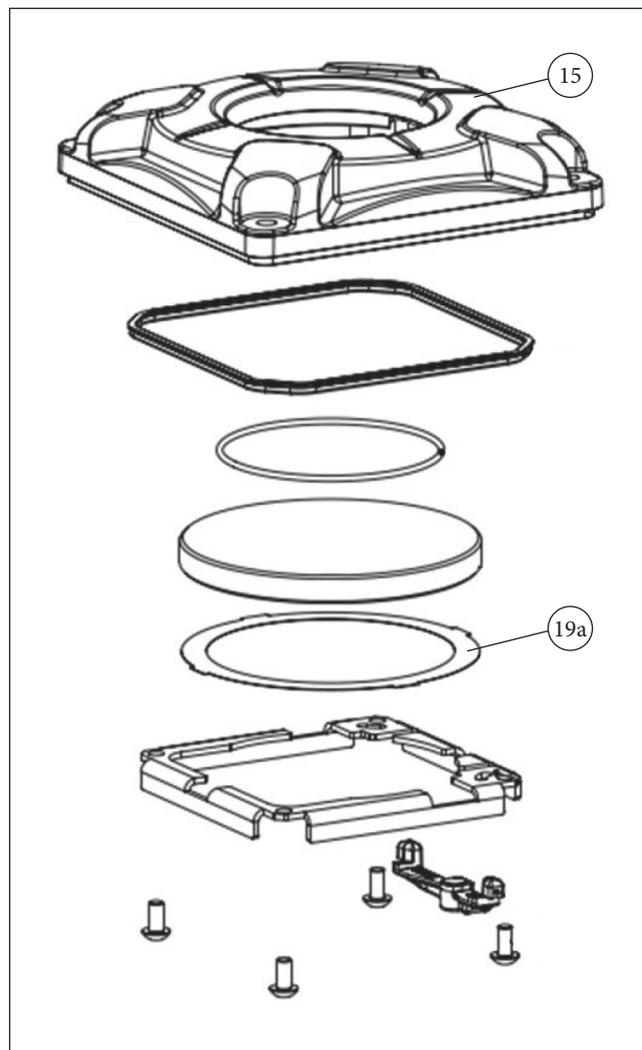

Fig. 114. Part 15 cover assembly figure
- Check that polyester (Mylar) shim (part 19a), used for securement of the window is in good condition and intact (see Fig. 114).